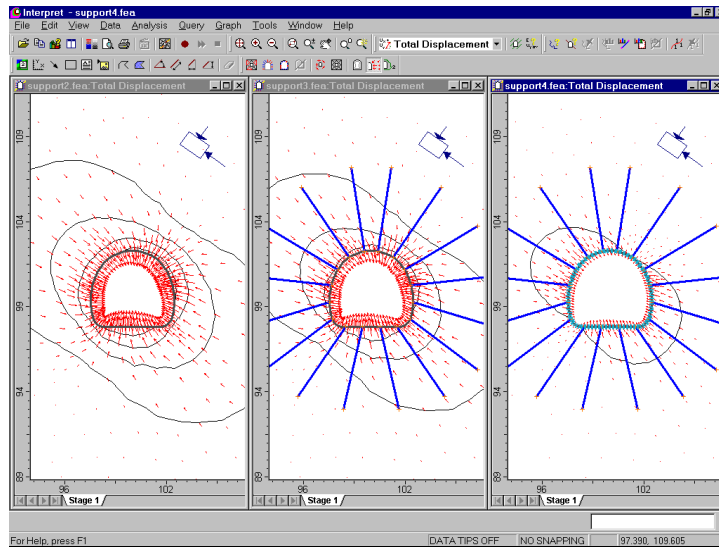

Figure 3-8: Total displacement contours and vectors for support2, support3 and support4 files.
3. In Contour Options, select Custom Range, enter a Range of 0 to 0.12, and Number of Intervals equal to 6, for each view. (The outermost contour shown in Figure 3-8 should then be the 0.02 meter total displacement contour).